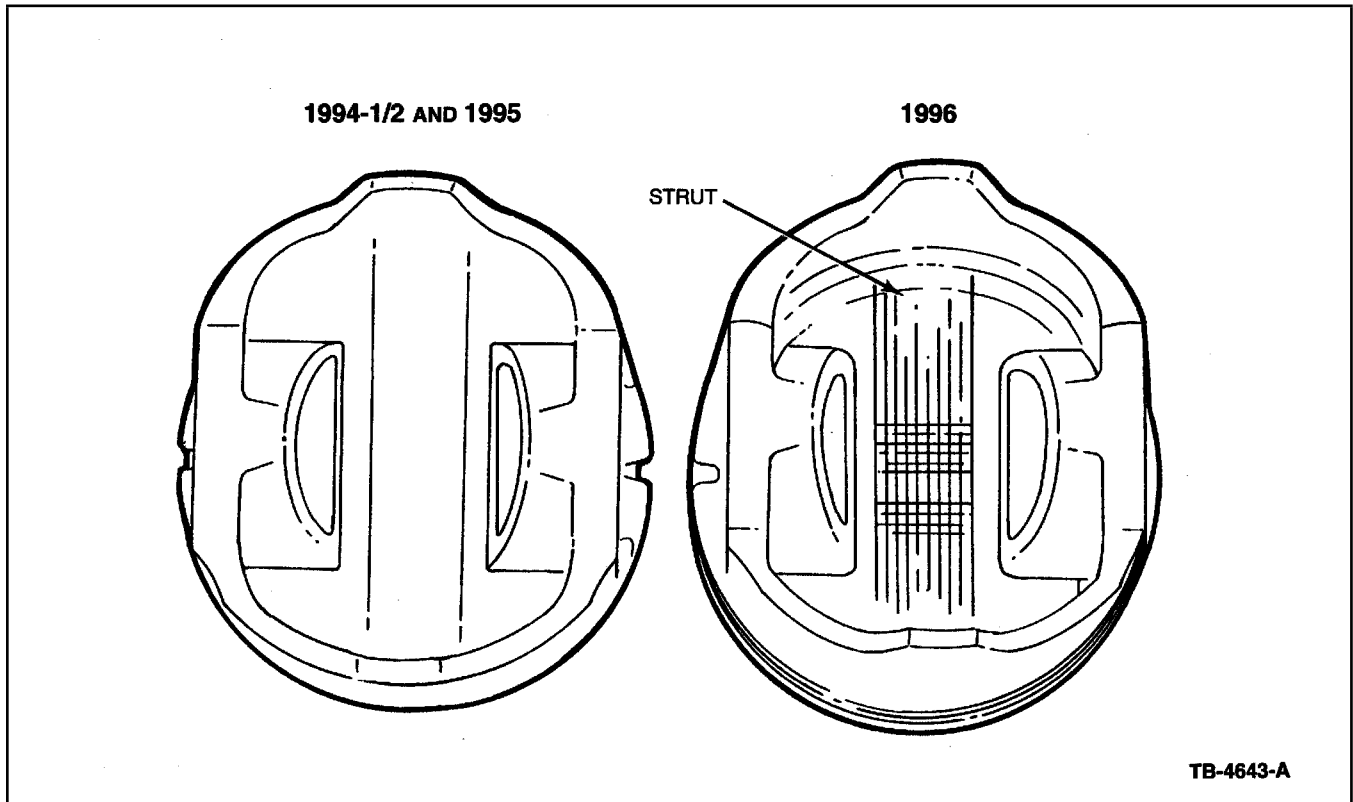

Figure 1 - Article 96-11-13
- New piston struts which control piston expansion and higher tension rings provide better seal and tighter clearances. Figure 1.